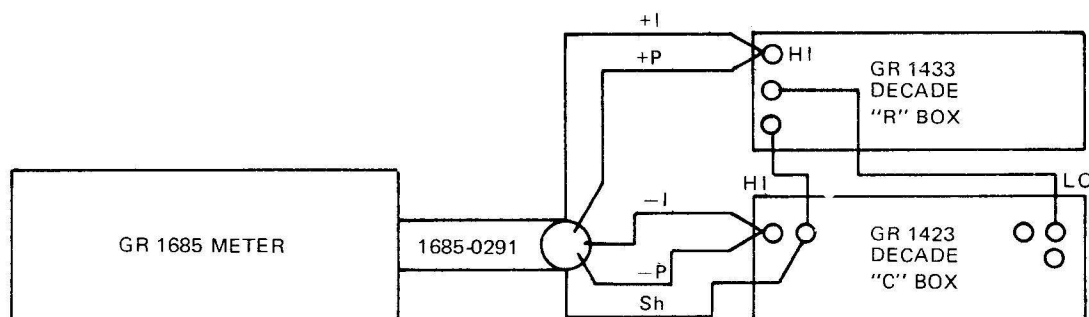

Figure 5-6. D-Q 1-kHz test setup.
- Connect the 1685 as shown in Figure 5-6.
To check and adjust D-Q at a 120-Hz frequency, use the same setup shown in Figure 5-6 and perform the following steps: